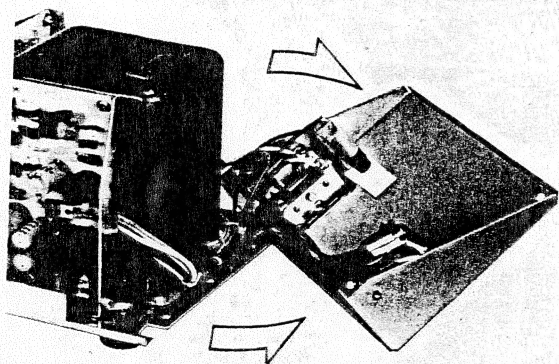

Fig. 2-5 Front subchassis removal
2. Remove the five self-tapping screws ($\oplus B 3 \times 6$) at front bottom of the chassis as shown in Fig. 2-3. This frees front subchassis as shown in Fig. 2-5.